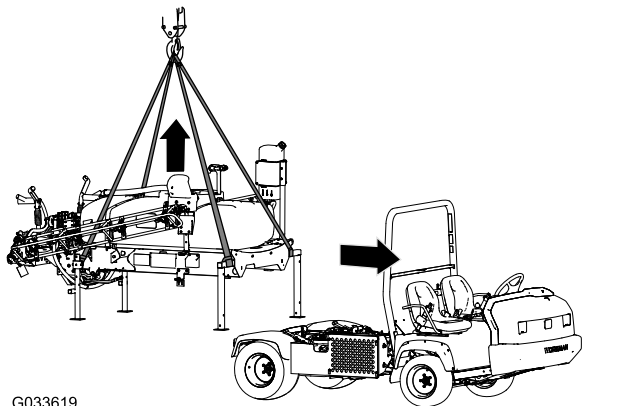

Figure 137
1. Lower the booms to approximately 45° and then pivot them forward (Figure 137).
7. Lift the tank skid from the machine high enough to clear the skid from the machine (Figure 137).
5. Attach the lifting equipment to the horizontal tubes of the forward jack stands and the vertical post of the rear jack stands (Figure 137).